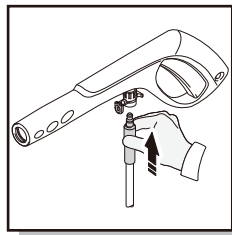

Fig. 4
- Connect the other end of the Soft PVC high pressure hose to the spray gun by inserting the brass metal tip of the Soft PVC high pressure hose into the fitting just ahead of the trigger guard. It will lock into the spray gun with a “click” (Fig. 4). Confirm the hose is locked into the spray gun by pulling slightly on the hose. The hose is now securely attached to the spray gun.